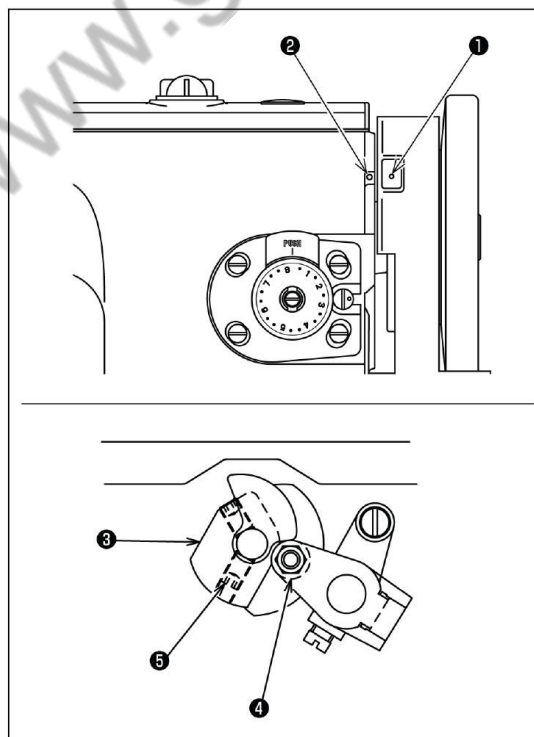

Fig.28
Standard position of the thread trimming cam is obtained when green marker dot (1) on the handwheel aligns with marker dot (2) on the machine arm in the case the thread trimmer is located as its initial position and thread trimming cam (3) comes in contact with cam roller (4). Loosen thread trimming cam setscrew (5) and carry out adjustment. See figure 28.